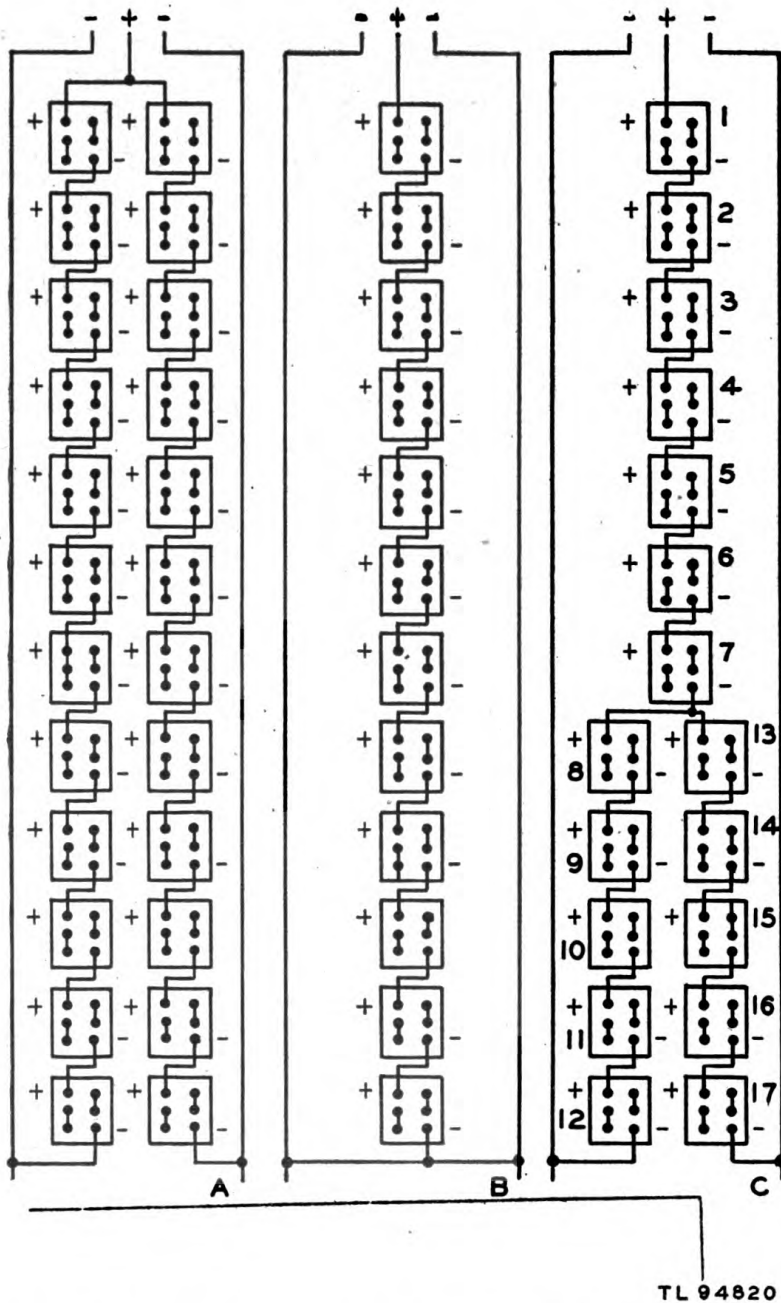

Figure 7. Diagram of possible battery connections in charging circuit.
d. CONNECTIONS FOR MISCELLANEOUS CHARGING. When using Rectifier RA-36-(\*) and rectifier 6RB6B17 for miscellaneous battery charging (fig. 7) make the following connections:
- (1) The batteries must be connected in series, voltage adding.
- (2) The negative (—) end of the batteries must be connected to the negative (—) lead from the rectifier.
- (3) The positive (+) end of the batteries must be connected to the positive (+) lead from the rectifier.
(4) For typical examples of battery connection, see figure 7. In example A, each battery gets one-half the total charging current. In example B, each battery gets the total charging current. In example C, batteries 1 through 7 get the total charging current and batteries 8 through 17 get one-half the total charging current.
(5) In Rectifier RA-36-(\*) the two negative leads are connected inter-